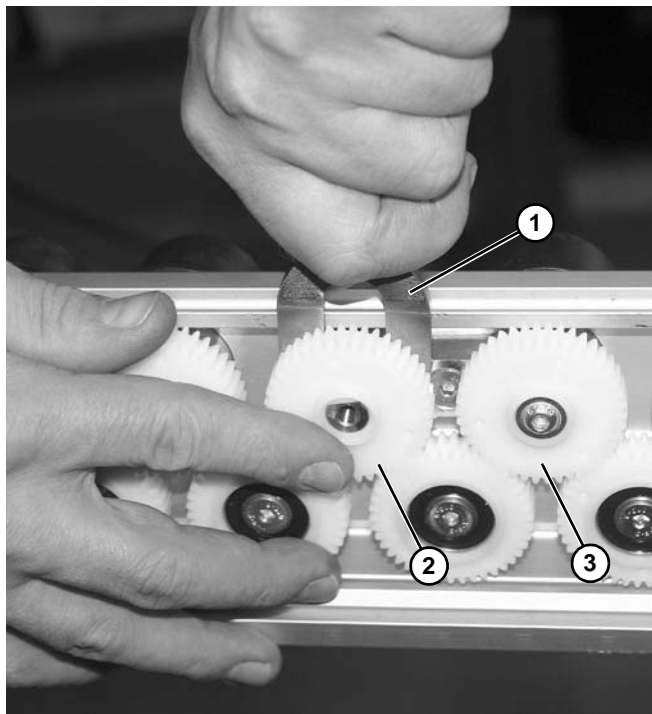

Figure 42
5. Install opposite end of sprocket removal tool, part number 400289 (**Figure 42, item 1**) to pry gear (**Figure 42, item 2**) from roller shaft.
6. Repeat for second gear (**Figure 42, item 3**).